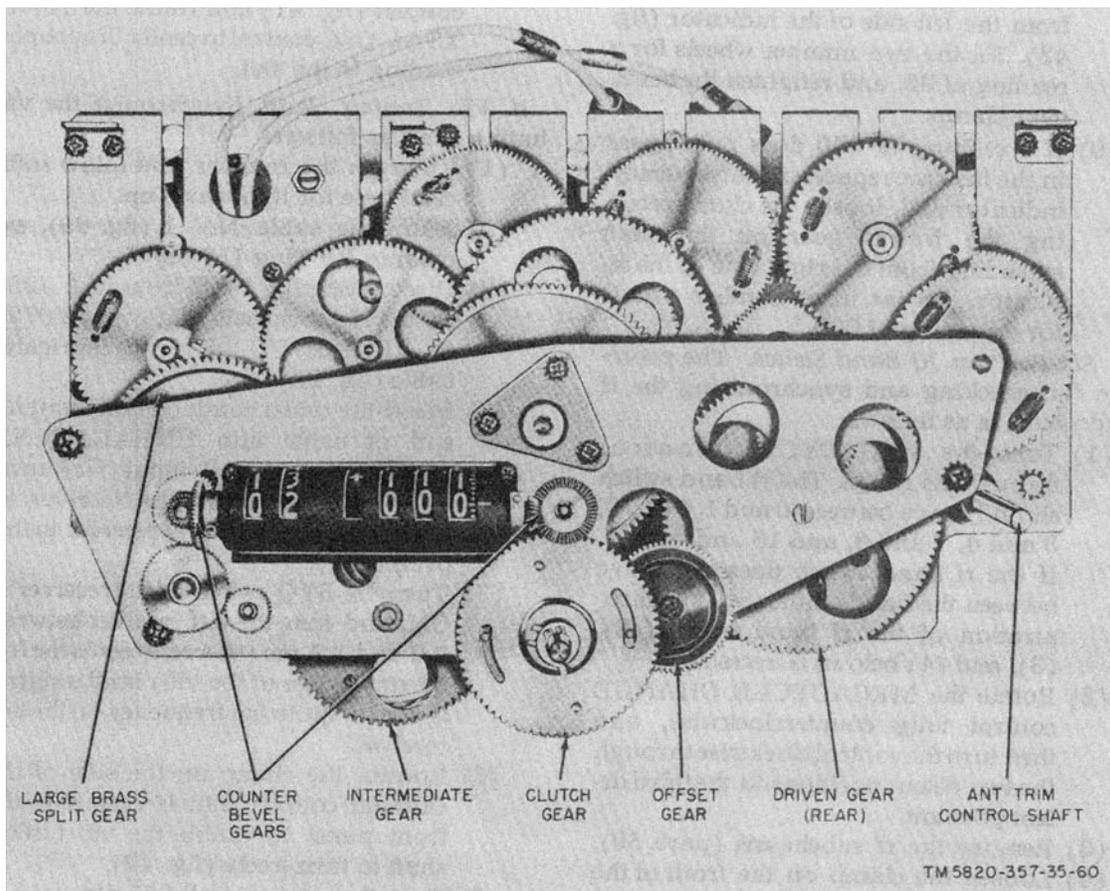
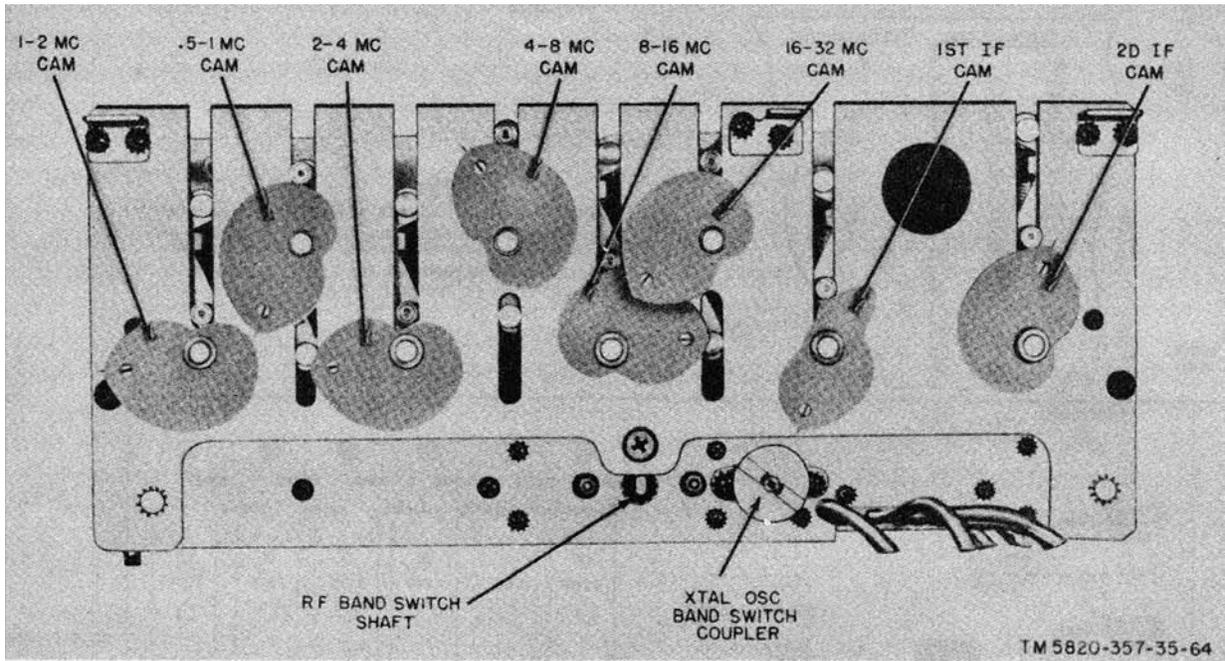

Figure 43. Location of gears.
Figure 44. Location of cams.
### 73. Mechanical and Electrical Synchronization (fig. 43 and 44)
*a. Camshafts.* The camshafts are synchronized properly if the index lines etched on the rear plate of the rf subchassis bisect the holes in each of the rear cams (fig. 44) when the frequency-indicator reading is 02 000. To synchronize the rf subchassis when it is removed from the cabinet, rotate the large brass split gear and the clutch gear (fig. 43) to positions where the frequency-indicator reading is 02 000. If the index lines do not bisect the holes, follow the procedure out-lined in (2) through (7) below. Before replacing the rf subchassis (para 5**h** above to positions where), rotate the two gears mentioned above to positions where the first two digits on the frequency indicator indicate halfway between 99 and 00, and the last three digits read -972. (Note the minus sign.) When the rf subchassis is in the cabinet, proceed as follows:
- (1) Check the 10-turn stop by rotating the MEGACYCLE CHANGE and the KILOCYCLE CHANGE controls fully counterclockwise. The frequency indicator should read halfway between 99 and 00 (off detent position) and -972. (Note the minus sign.) Check the reading on the megacycle
portion of the frequency indicator. If it does not agree, loosen the crystal-oscillator band switch position indicator to see that it agrees with the reading on the Oldham coupler clamp (fig.41) on the crystal oscillator and turn the SYNC XTAL OSC control on the rear panel (TM 11-5820-357-10) until the two readings agree. Tighten the clamp on the Oldham coupler. Check the synchronization of each band by noting the position of the cam rollers at the end frequencies of each band. The position of the 1- to 2-mc band cam shown in figure 44 represents the correct position for the low end of the band. The position of the second if. cam shown in figure 44 represents the correct position for the high end of the band (the last three digits of the frequency indicator should read 999). If all the cams are out of synchronization, set the 8- to 16-mc cam first.
- (2) If the 1- to 2-mc camshaft (fig. 44) is not positioned properly, loosen the clamp on the front of the shaft and rotate the rear cam until the index line bisects the hole in the cam. Tighten the clamp.
- (3) Position the camshaft for .5- to 1-mc slug rack (fig. 44), if necessary, in the same manner as described in (2) above.
- (4) Check the position of the 8-to 16-mc camshaft. If it is not aligned properly, loosen the clamp on the front of the 2- to 4-mc shaft to position the 8- to 16- mc cam, since the gear for the 8- to 16-mc shaft is pinned through the shaft. After positioning the 8-to 16-mc cam, position the 2- to 4-mc cam while holding the 8- to 16-mc cam in place; then tighten the clamp on the 2- to 4-mc shaft.
- (5) necessary, position the 4- to 8-mc and 16- to 32-mc cams (fig. 44) in the same manner as described in (2) above.
- (6) To position the first variable if. cam (fig. 44), loosen the clamp nearest the front plate of the rf subchassis on the crystal-oscillator band switch shaft. Adjust the position of the cam; then tighten the clamp.
- (7) Position second variable if. cam (fig. 44), if necessary, in the same manner as for the 1- to 2-, .5- to 1-, 4- to 8-, and 16- to 32-mc cams.
- (8) Check the reading of the frequency indicator. If a reading of 02 is not centered within the two left-hand spaces of the indicator, loosen the clamp on the bevel gear on the shaft extending from the left side of the indicator (fig. 43). Set the two number wheels for a reading of 02, and retighten the bevel-gear clamp.
- (9) If a reading of 000 does not appear in the last three spaces of the frequency-indicator dial, loosen the clamp securing the bevel gear on the shaft extending from the right side of the indicator. Set the three number wheels for a reading of 000.
contacts are centered at position 3 by inserting long-nosed pliers in the hole at the rear of the subchassis (fig. 44) and turning the shaft. Positions of the switch contacts are shown in the schematic diagram (fig. 74). Tighten the clamp after adjustment.